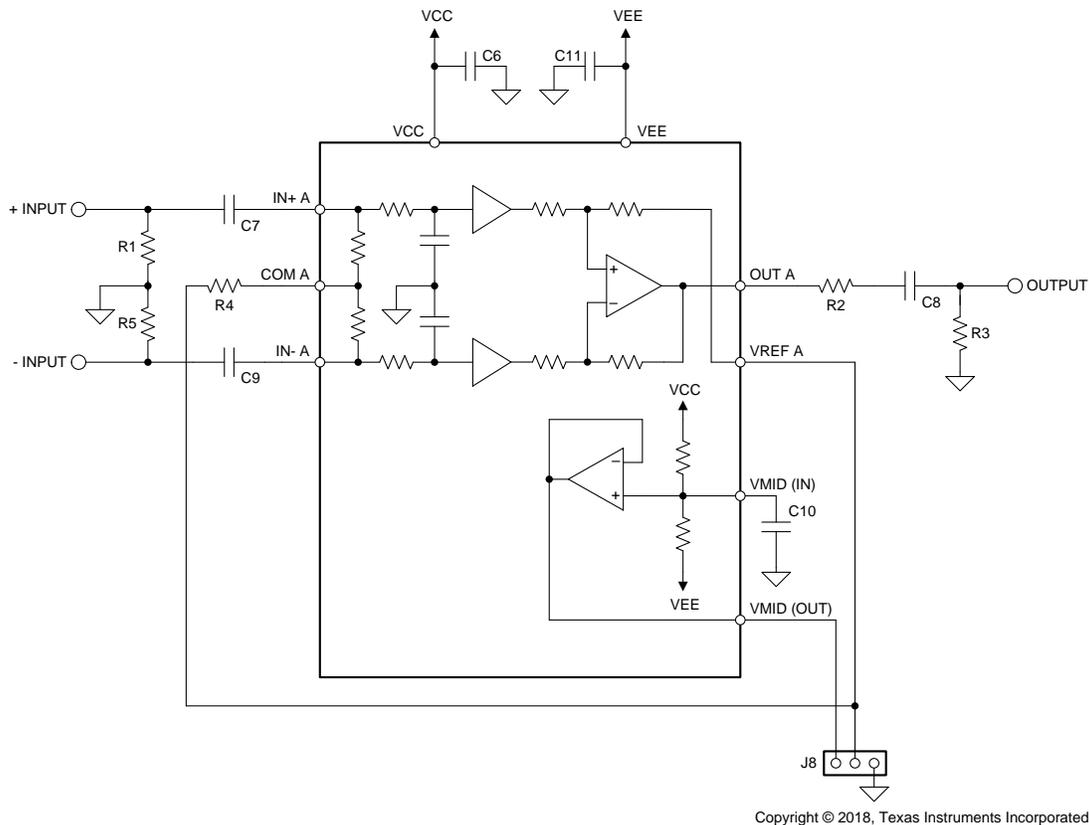
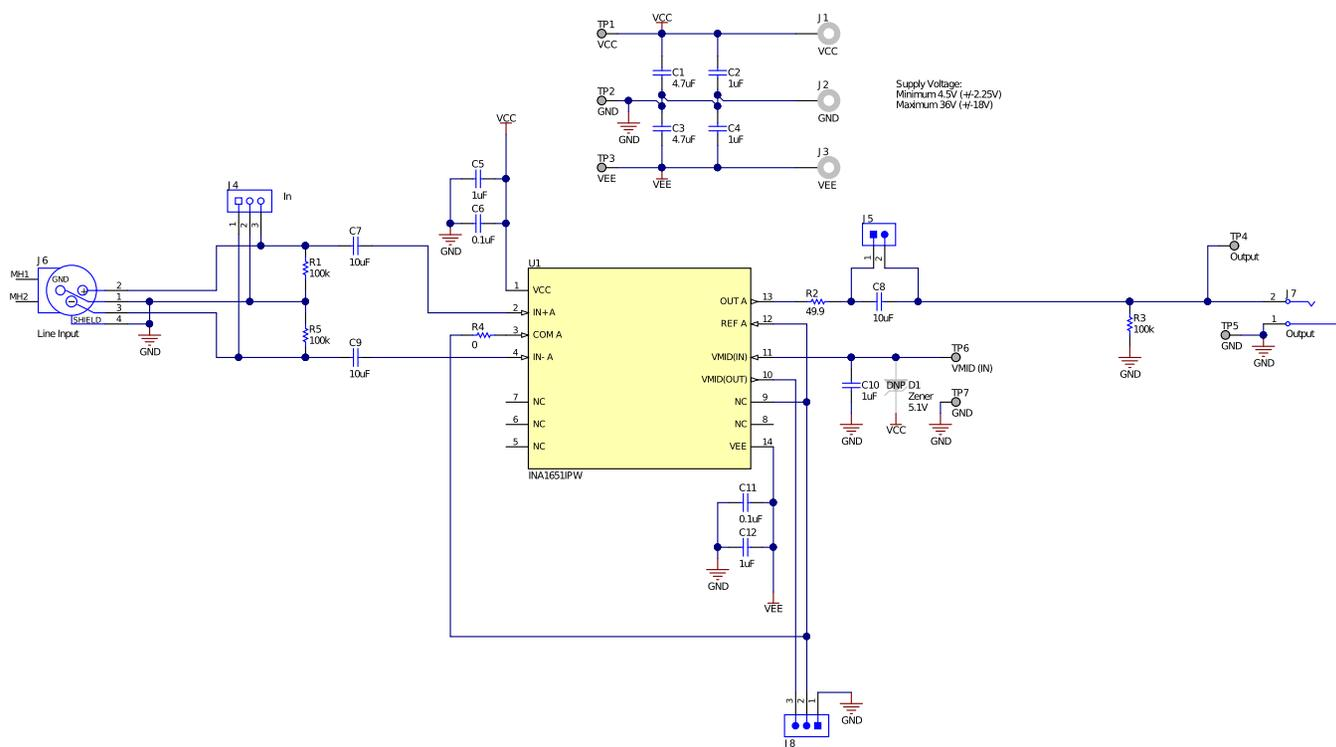

Figure 2. Simplified INA1651EVM Schematic
Figure 13. Schematic
This EVM is designed to provide access to the features of and measure the performance of the INA1651. Modifications of the INA1651EVM can be made and include; adjusting the ac-coupled corner frequency, filtering the VMID (IN) pin, adjusting the start-up time, and increasing the common-mode input impedance. A simplified schematic of the INA1651EVM is displayed in Figure 2. For a full schematic of the INA1651EVM, see Figure 13.
Figure 13 illustrates the EVM schematic.